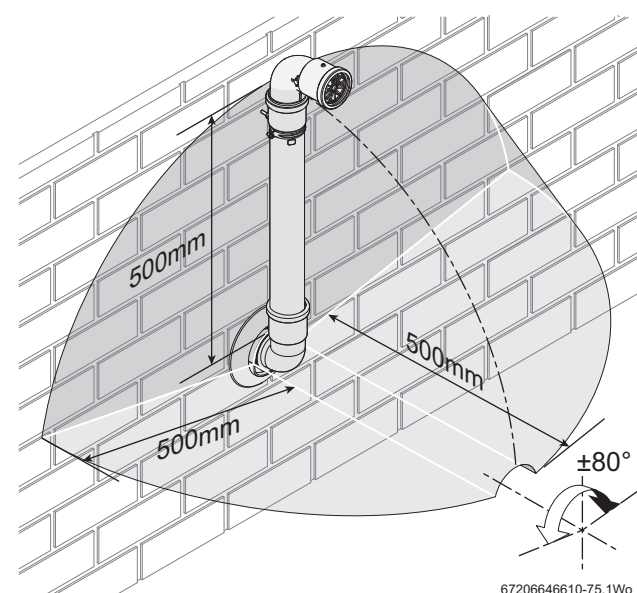

Fig. 17 Terminal exclusion zone
The minimum plume length should be calculated to ensure that the air inlet and exhaust have a minimum distance of 500mm between them (→ figure 17).
▶ Do not terminate the plume management inside the shaded area shown in figure 17